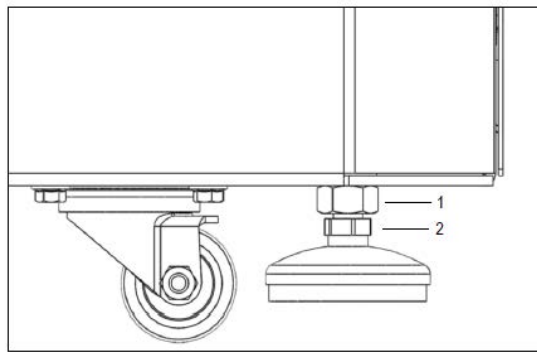

Figure.10
- Move the centrifuge on its intended location. Unscrew the lock nut (1) with an open-ended spanner AF M16 (see Figure 10). Turn the appliance feet (2) down with an open-ended spanner AF M13 until they are firmly on the floor surface. Now the centrifuge has to be leveled horizontally, using the four appliance feet. Therefore, mount the associated rotor on the motor shaft and place a spirit level on it. After leveling the appliance feet, tighten the lock nut. The rollers should not touch the ground anymore (only FC5917RF, FC5917RF Short models)